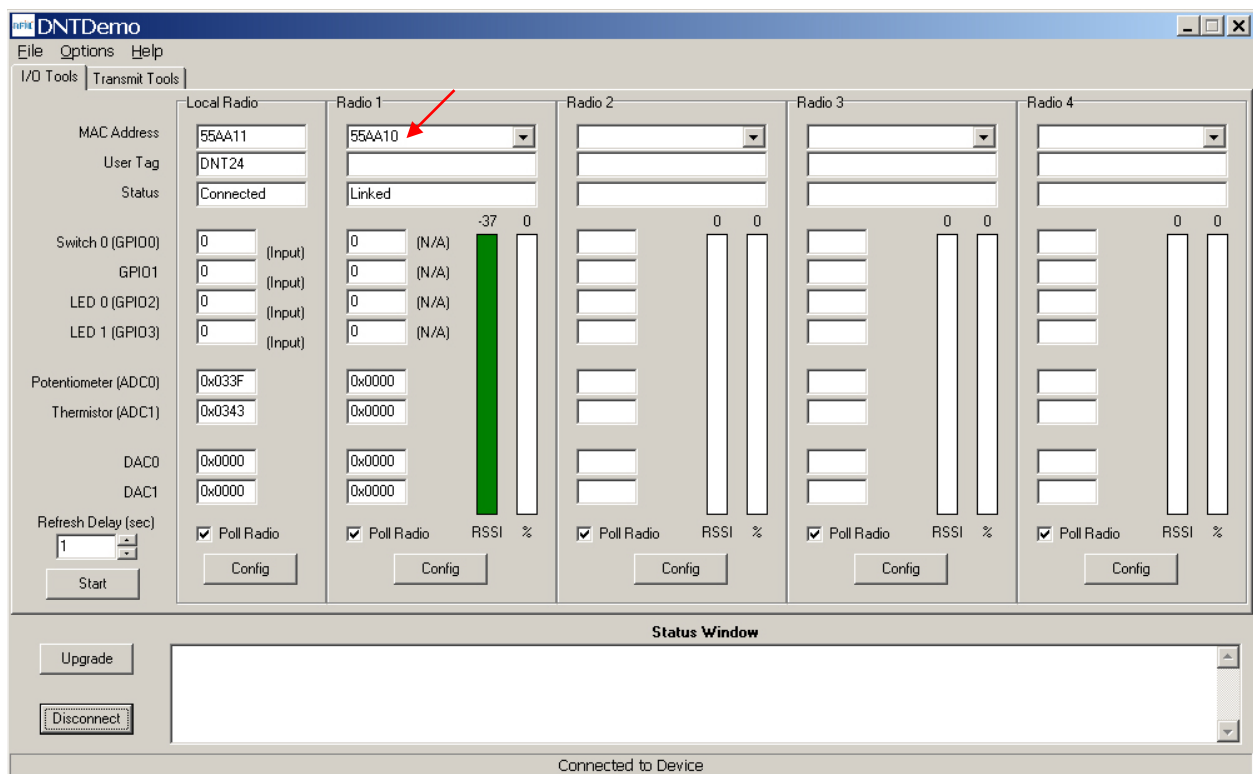

Figure 8.3
3. At this point the utility program will collect data from the Base, filling in the *Local Radio* column as shown in Figure 8.3.